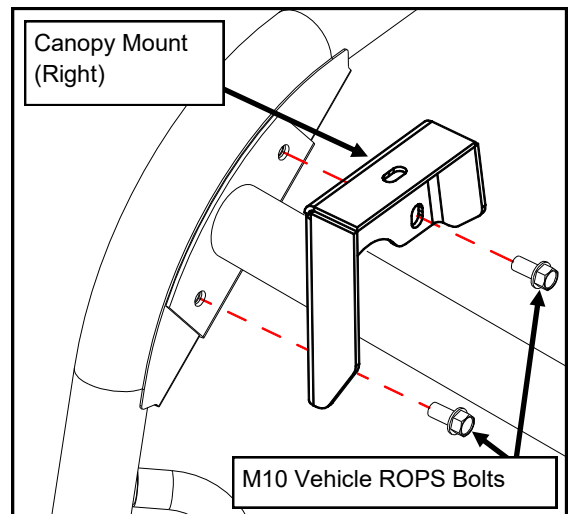

Fig. 1
1. Install canopy mounts (found in canopy kit) as directed in canopy instructions. See fig. 1.